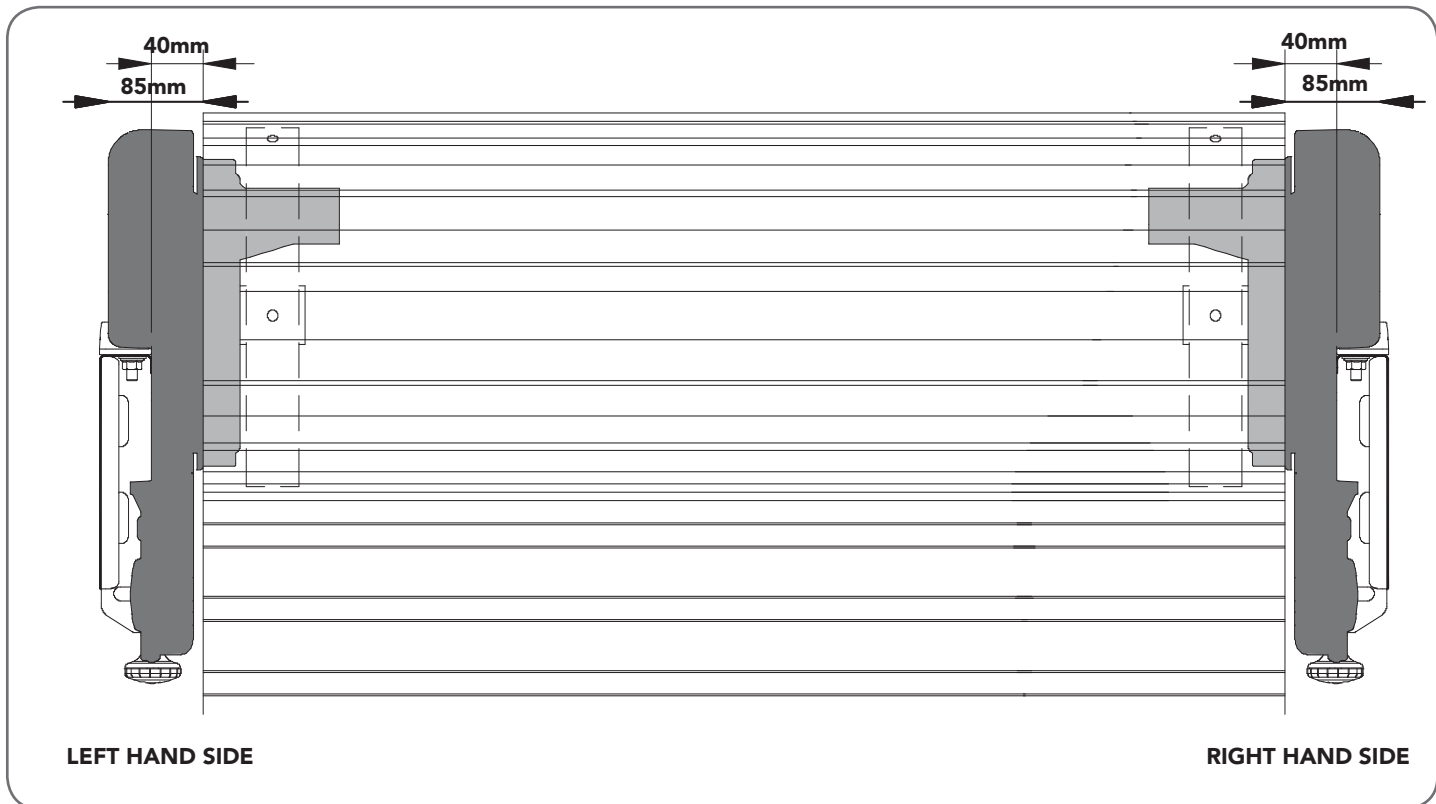

Fig. 4.2.1
- Is factory set for RIGHT HAND SIDE installation (from inside garage), but capable of LEFT HAND SIDE installation. Fig 4.2.1